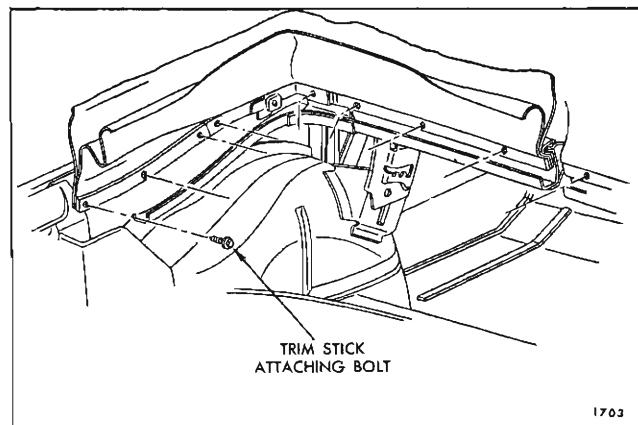

Fig. 2-I-38 — Trim Stick Attachment
3. Detach folding top compartment bag from rear seat back panel, thus exposing rear quarter and rear trim stick attaching bolts (Fig. 2I38). Forward end of top compartment bag may be tied or wired to center roof bow to provide ready access to attaching bolts.
4. Remove attaching bolts securing rear quarter trim sticks to rear quarter inner panel (Fig. 2I38).
6. To establish relationship of right and left inner vertical edge of old top material to back curtain assembly at rear trim stick location, mark back curtain vinyl at both locations with a grease pencil. (Fig. 2I39). Reference marks should be transferred to new back curtain when step 3 of installation procedure is performed.